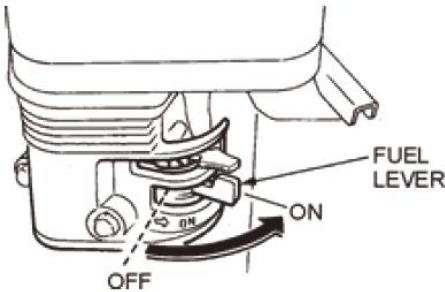

FIG.6
9.1 Place the engine fuel valve lever (FIG. 6) to the "ON" position.